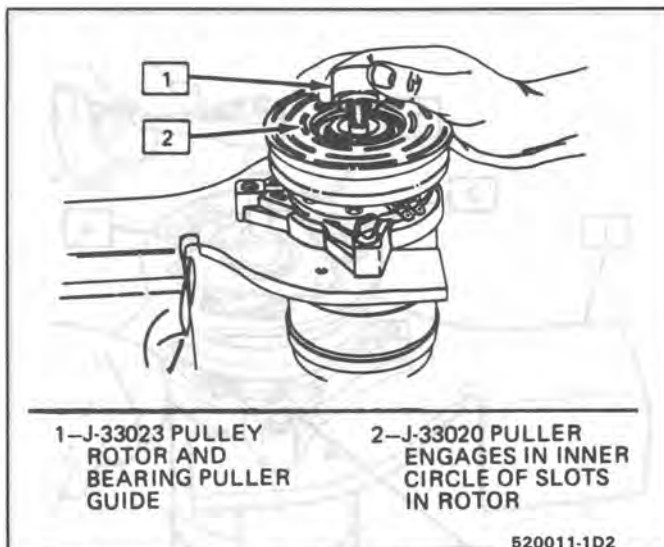

Fig. 11 Installing Pulley Rotor/Bearing Puller Guide
3. Install pulley rotor and bearing puller guide J-33023 to the front head (Fig. 11) and install J-33020 pulley rotor and bearing puller down into the inner circle of slots in the rotor. Turn the J-33020 puller clockwise in the slots to engage the